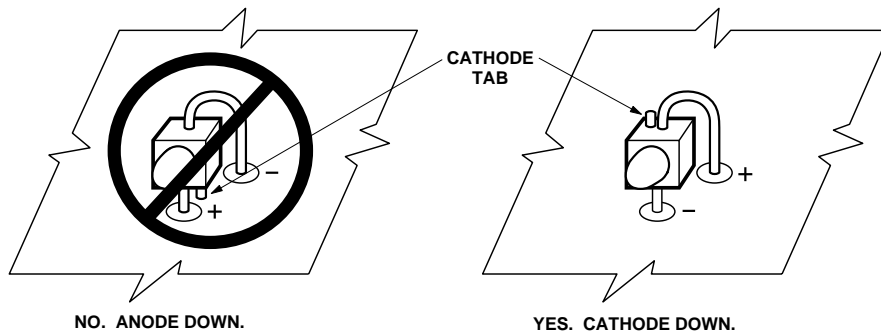

Figure 1. Proper Right Angle Mounting to a PC Board to Prevent Protruding Cathode Tab from Shorting to Anode Connection.
* REFER TO FIGURE 1 FOR DESIGN CONCERNS.